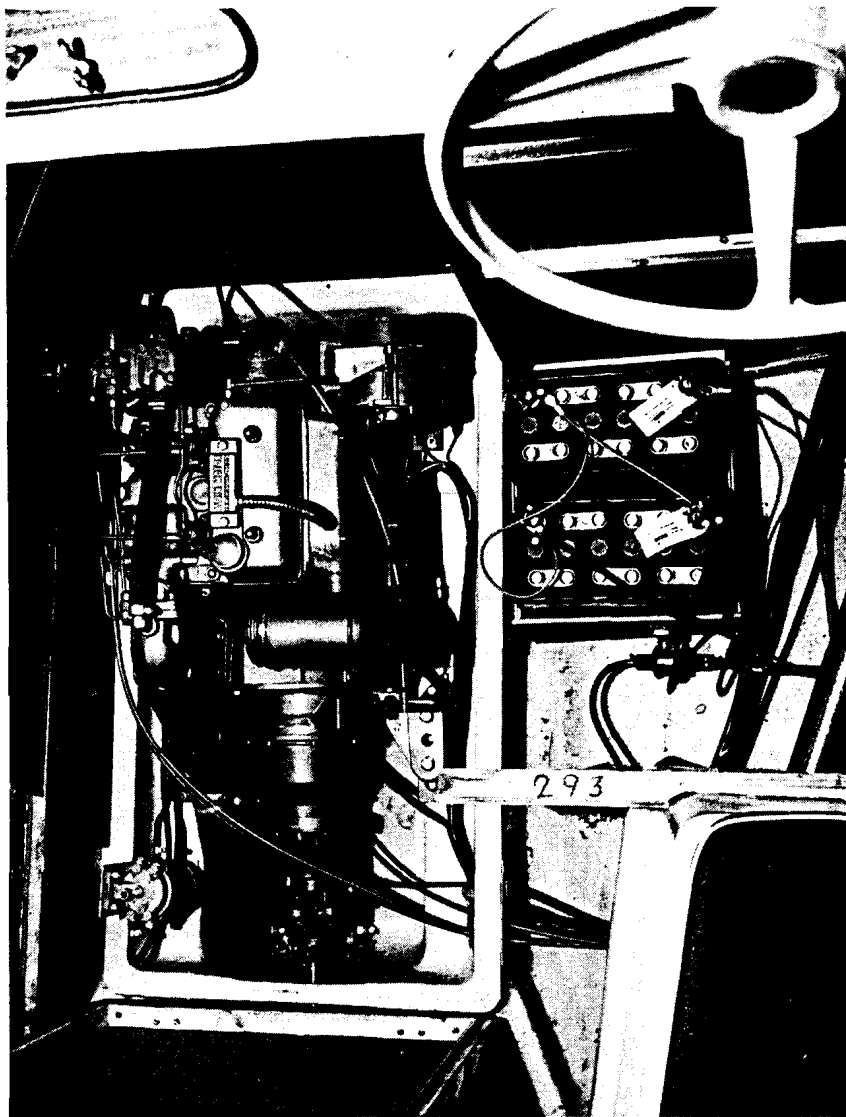

Fig. 15. Engine installation and batteries.
1. Remove the helmsmans seat. Remove the floorboards and the floor over the battery box (under the helmsmans seat). Unfasten the clasps on the engine cover and fold it aft (fig. 15).